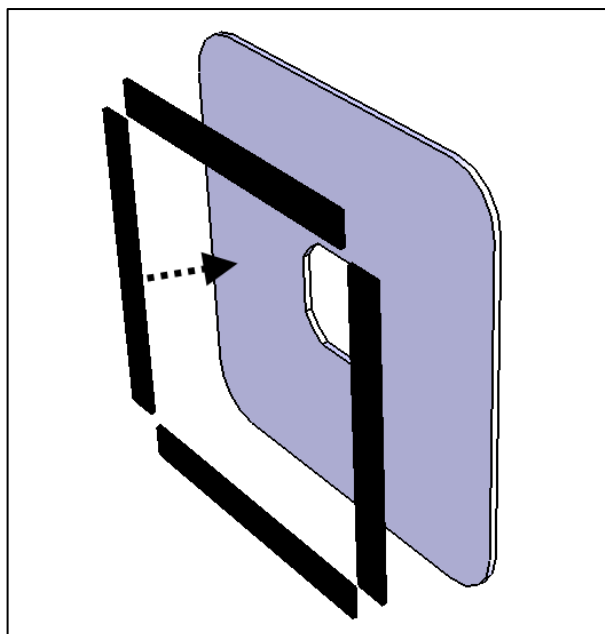

FIGURE 8
10. Cut the double face tape #506869 in 4 equal lengths and apply to #479625 plate. (Fig. 8)